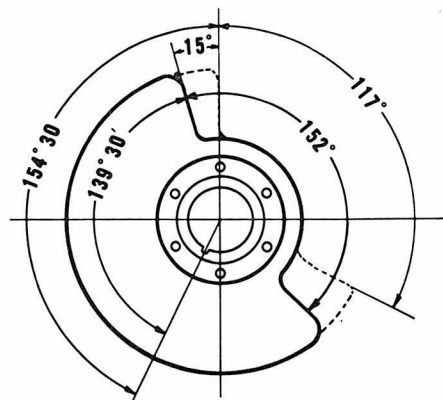

Fig. KT4-2—Solid line represents outline of F5 Speed Kit and F81M rotary valve. Configuration of standard F5 and F8 rotary valve is shown by dotted lines.
Rotary valve cover and right crankcase half should be matched so that passageway is free of steps or other obstructions. Rotary valve used in the F5 Speed Kit has a 35 degree longer duration than the standard rotary valve (Fig. KT4-2).
**PORT TIMING.** Transfer ports on F81M models are timed at 59 degrees as are standard F8 transfer ports. The exhaust port on the F81M is positioned to open 87 degrees 40 minutes before and after BDC. Standard F8 exhaust opens 83 degrees before and after BDC. Rotary valve is shaped so that intake opens 130 degrees BTDC and closes 65 degrees ATDC. The difference between a standard F8 rotary valve and the F81M rotary valve may be seen in Fig. KT4-2.